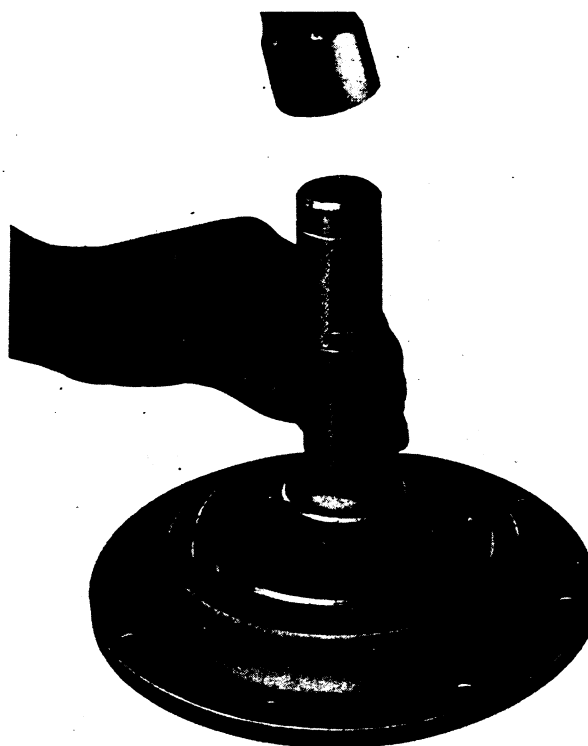

FIG. 151.
1. Drive out oil seal from cover, using Remover Adaptor, Service Tool FT.104, with Universal Handle No. 550, as shown in Fig. 151.
3. With seal mounted on the Adaptor FT.105B/2, using Handle No. 550 drive seal into place from inside of cover. The replacement is, in principle, similar to removing, Fig. 151.